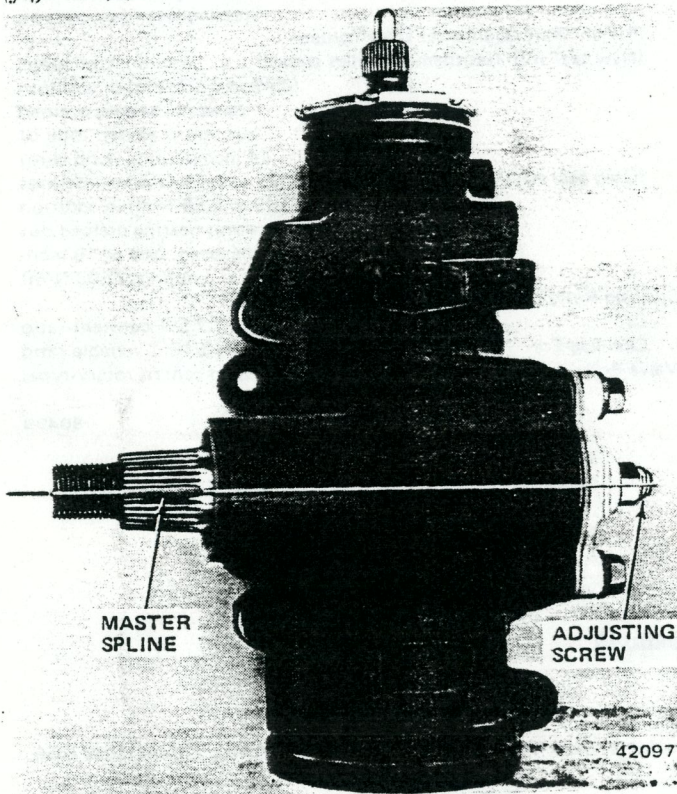

Fig. 2L-44 Stub Shaft Position with Gear Centered
NOTE: When the gear is centered, the flat on the stub shaft should face upward and be parallel with the side cover (fig. 2L-44). In addition, the master spline on the pitman shaft should be in line with the adjuster screw (fig. 2L-45).
(4) Install 50 inch-pound (6 N•m) torque wrench and deep socket on stub shaft and place wrench in vertical position to take reading (fig. 2L-46).
(5) Rotate torque wrench 45 degrees each side of center and record highest drag torque measured on or near center (fig. 2L-46). Record drag torque reading.
(6) Adjust drag torque by turning pitman shaft adjuster screw clockwise until desired drag torque is obtained. Adjust drag torque to following limits: